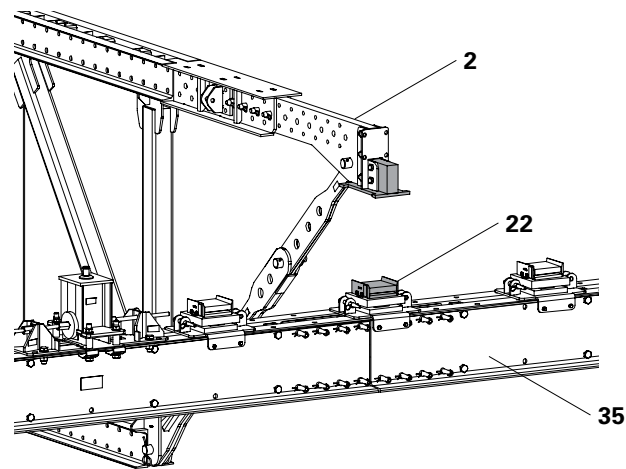

Fig. B2.02
5. Slowly lower the single truss and place the Bearing Frames (2) on the Longitudinal Bearings (22). (Fig. B2.02)